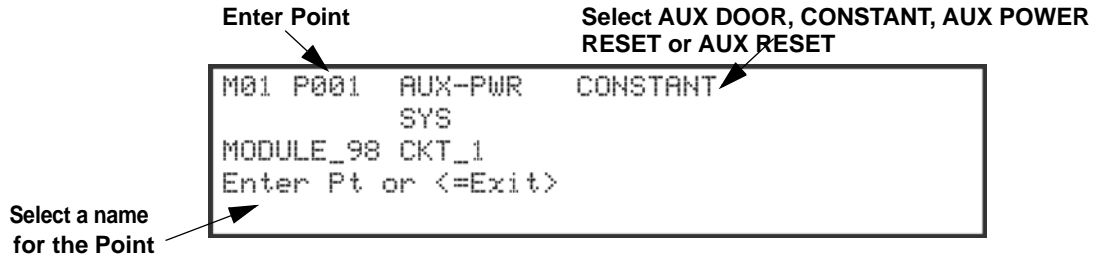

Figure 9-6 Programming Points Screen for the 5496 Module
6. Press the up or down arrow key to select the type (See Figure 9-6). Then press ENTER.